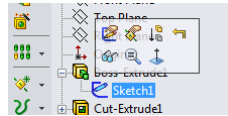

Fig1
- Expand the sublist of the feature to see its sketch! Click on the sketch item and choose the first tool (Edit Sketch) in the pop-up menu (Fig1).